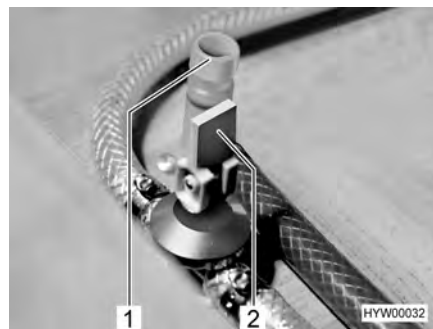

Fig. 133 Drain cocks for Truma boiler
- Close all boiler drain cocks. To do this, position the rocking lever (Fig. 133,2) horizontally or turn the cap (Fig. 133,1) in a clockwise direction.
- Open all boiler drain cocks. To do this, position the rocking lever (Fig. 133,2) vertically or turn the cap (Fig. 133,1) in an anticlockwise direction.